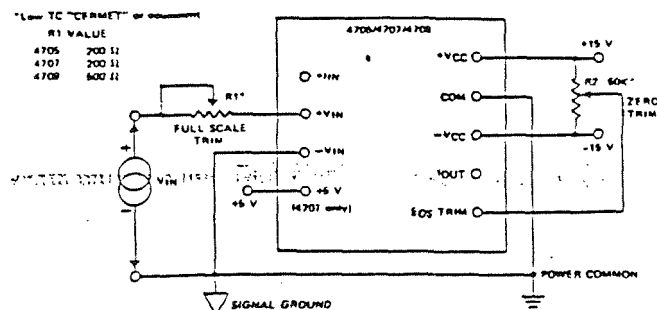
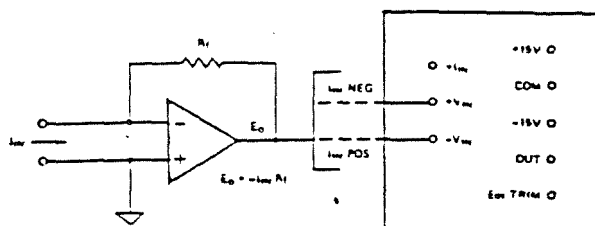
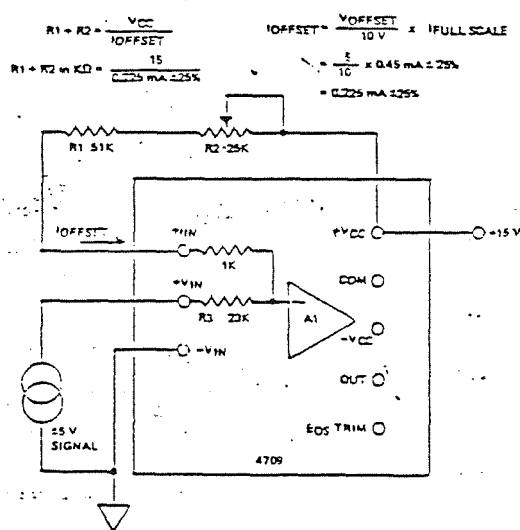

Figure 2. Zero & Full Scale Trim Positive Voltage Input
Figure 5B. Full Scale Input Currents Negative Of Less Than 200 μ A
Figure 6A. V to F With +5 V Offset Allows Operation With Bipolar ± 5 V Input Signal
When greater accuracy is required, input offset voltage (E_{OS}) and Full Scale (FS) output frequency are trimmed with external potentiometers as shown in Figure 2.
Zero Trim is performed with R2 as shown in Figure 2. For Full Scale Trim, connect R1 between $+V_{in}$ and Signal Ground.
The 4705, 4707, and 4709 can be operated with input voltages greater than $+10 \text{ V}$ by connecting a fixed resistor and trim potentiometer in series with the $+$ voltage input (see Figure 4A). For voltages more negative than -10 V , the attenuator network of Figure 5B performs well. Zero Trim and other adjustments remain the same as for Figure 2.
The best way to CONDITION CURRENT SIGNALS is with the classic current to voltage converter circuit shown in Figure 5B. With this circuit and the "right" amplifier, virtually any current (even femtoamps) will provide a positive or negative full scale input with no compliance voltage problem.
A ± 5 V signal connected to the $+V_{in}$ pin of a 4709 as shown in Figure 2 will produce no output from -5 V to 0 V and 0 to 50 kHz out from 0 V to +5 V_{in} . Essentially an OFFSET of +5 V ($\frac{1}{2}$ Full Scale) must be added to the +5 V input voltage to produce 0.1 Hz out for +5 V_{in} , 50 kHz out for 0 V in and 100 kHz out for +5 V_{in} . This may be accomplished as shown in Figure 6A by injecting an offset current into the $+I_{in}$ pin through R_1 and R_2 . This is the equivalent of connecting a resistor, with the same value as the $+V_{in}$ input resistor (23K), to +5 V.